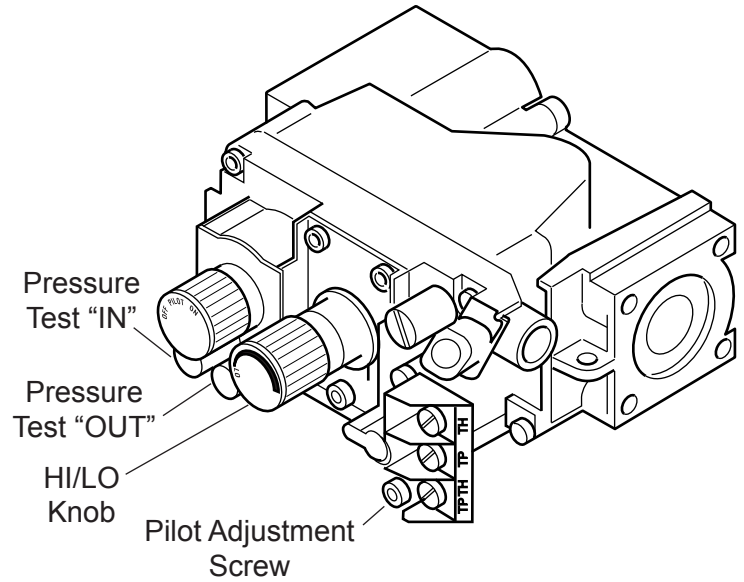

Figure 40 - Gas Pressure Check at Gas Valve
5. To check gas pressures at valve, turn captured screw counter clockwise 2 or 3 turns and then place tubing to pressure gauge over test point. Turn unit to high. See *Figure 40*. After taking pressure reading, be sure and turn captured screw clockwise firmly to reseal. Do not over torque. Check test points for gas leaks.